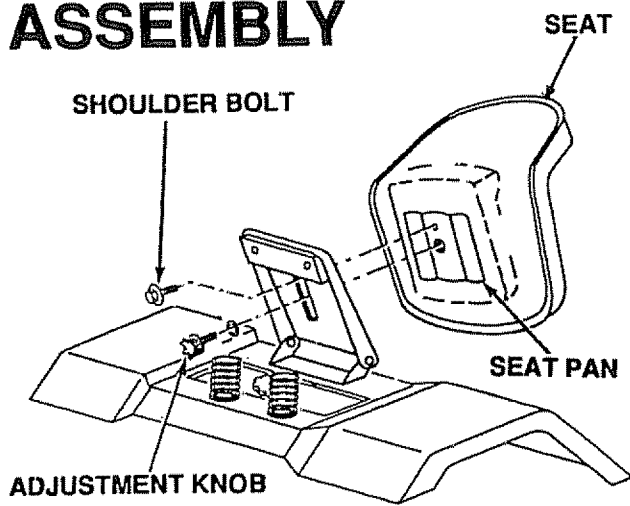

FIGURE 3
- Place seat on seat pan. Screw adjustment knob and flat washer into seat (Fig. 3). Screw shoulder bolt into seat (Fig. 3). Adjustment knob, shoulder bolt and washer found in bag of parts (shown full size on page 6).